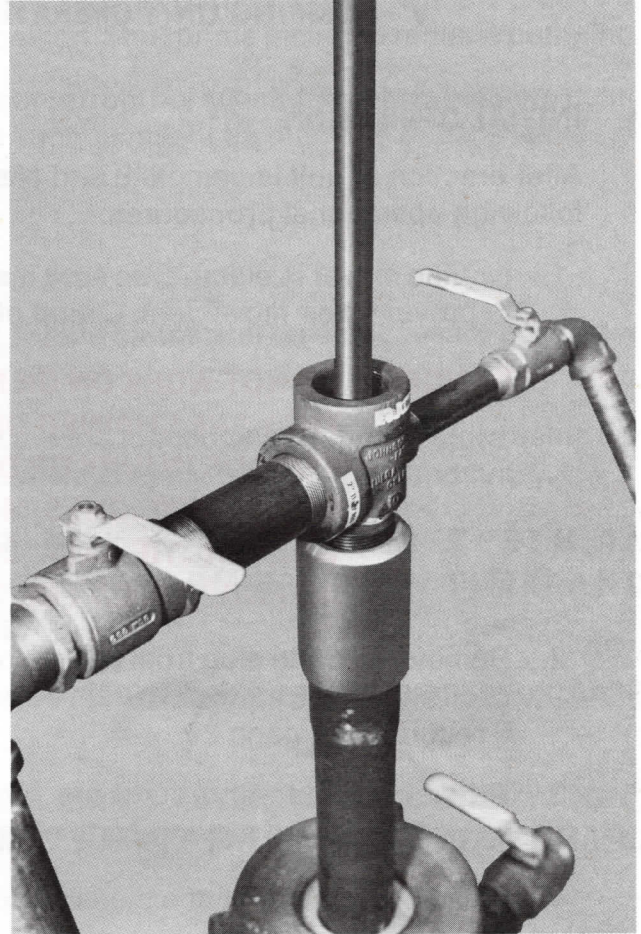

Fig. 23
35. If stuffing box is not under pressure, remove gland and packing so that polished rod position can be observed in pumping tee bore. Stuffing box gland and packing may be fastened to polished rod carrier bar to keep it out of the way. Release brake, start prime mover and move horsehead to lowest position and set brake. Observe position of polished rod in pumping tee bore. Move horsehead to highest position and check position of polished rod in pumping tee bore. Polished rod should be as near center of bore as possible. If adjustment is required, move entire unit on foundation, Fig. 23.